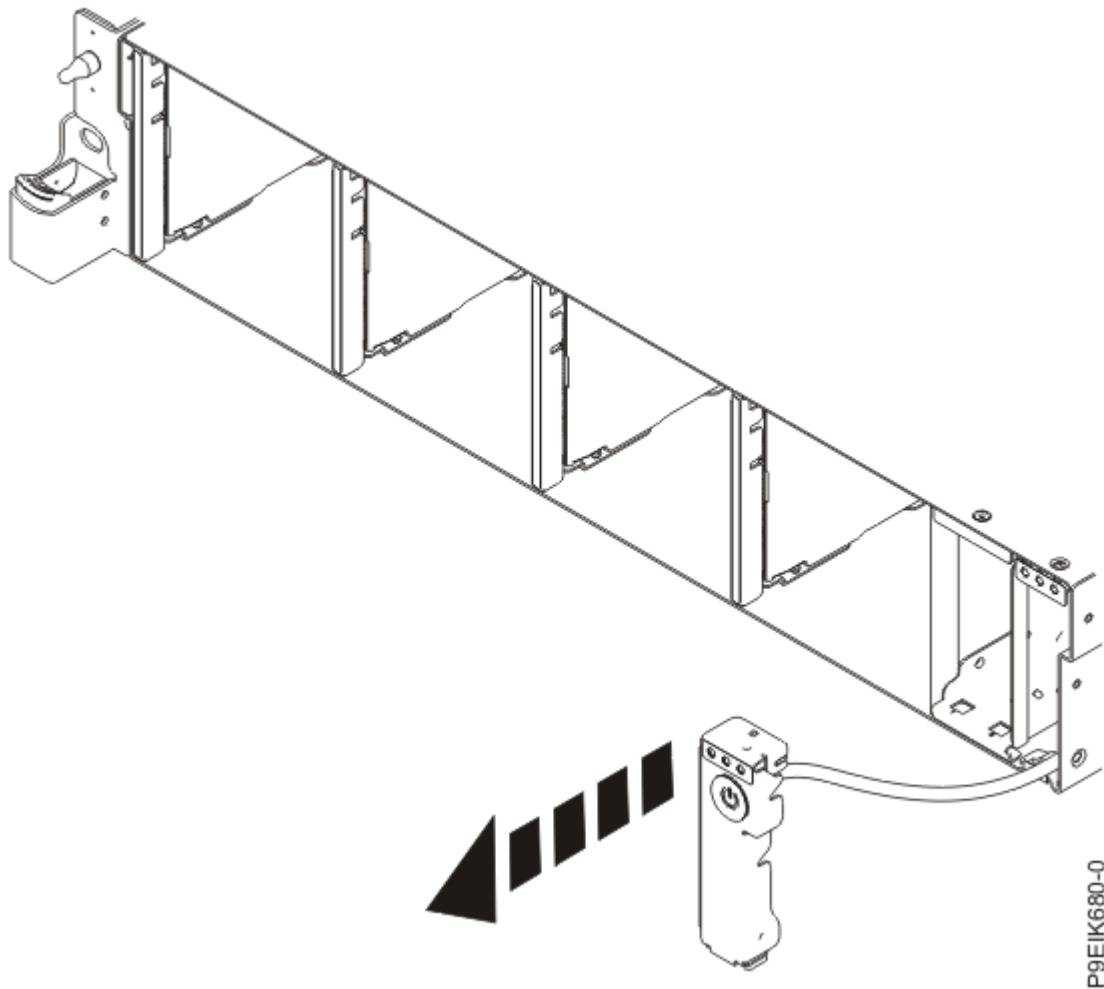

Figure 38. Pull out the power switch and cable
6. Pull the power switch from the system as shown in Figure 38 on page 52.